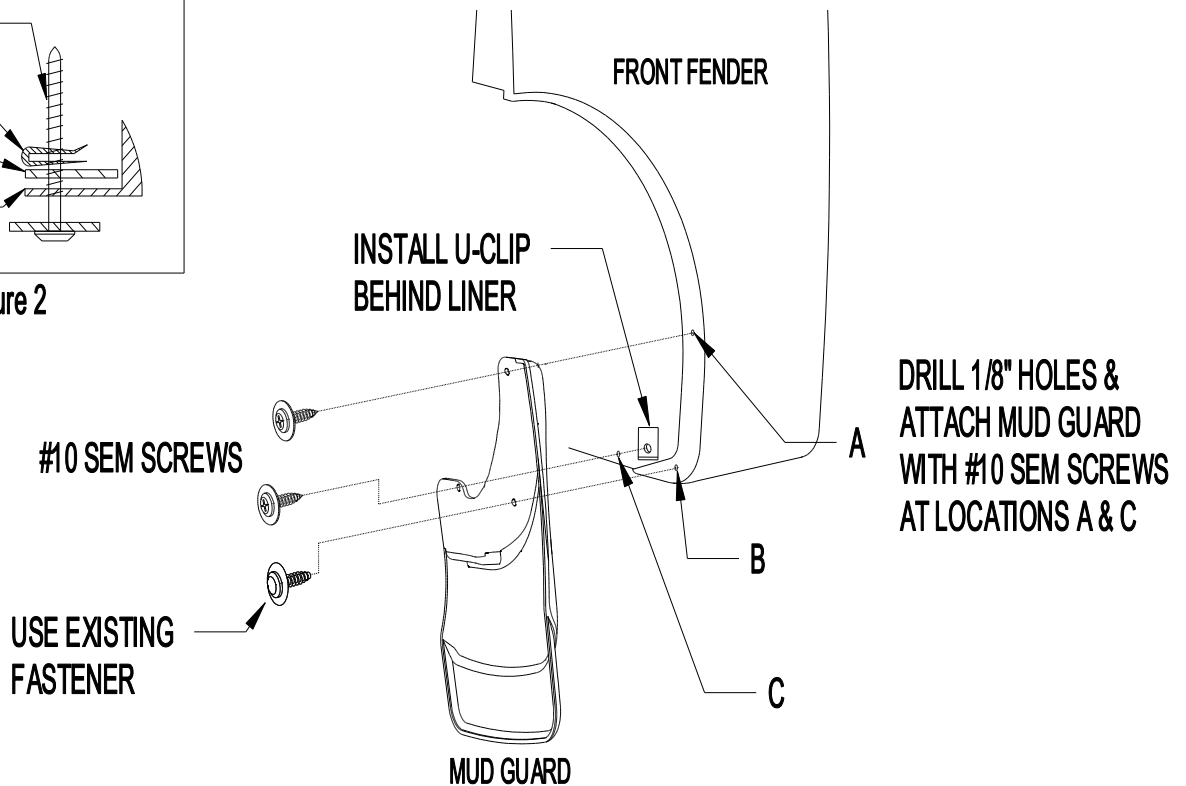

Figure 1
1. Remove the existing fastener from location B (Figure 1).
4. Install a #10 SEM Screw at location A (Figure 1).